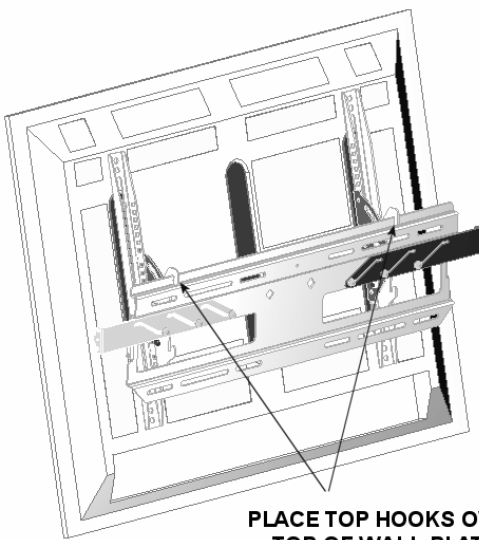
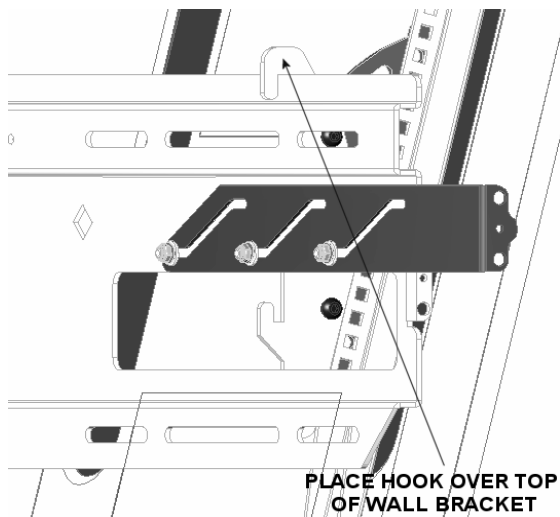

Figure 11. Hooks On Top (View 1)
Figure 12. Hooks On Top (View 2)
1. Place the display on the wall plate (10) by hooking the hooks of the brackets (20 and 30) in the top of the wall plate (see Figure 11 and Figure 12).